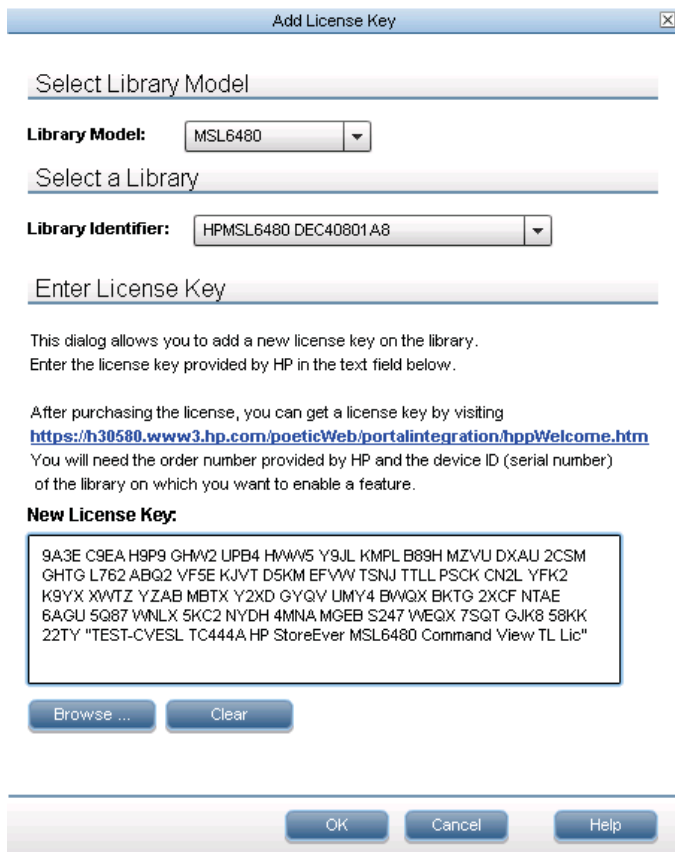

Figure 2. Adding a new license using Command View TL
2. Specify the library model (MSL6480 was selected for this example which automatically selected the library identifier [serial number and IP] for the managed MSL6480 Tape Library), and browse to or enter the new license key in the provided text box. See **figure 2** as an example. Click **OK**. The new license key is added to the License Key Summary window.